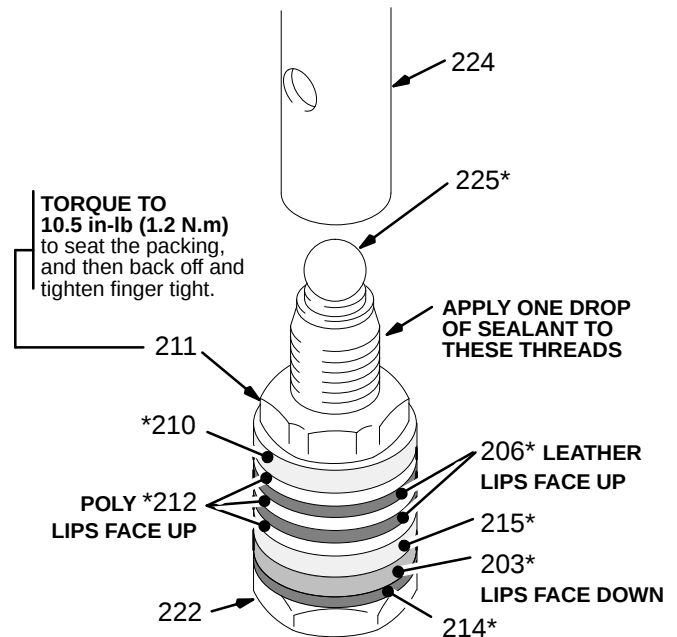

Fig. 27
NOTE: Alternate leather and plastic packings as shown in Fig. 27. The lips of the throat "V" packings must face down. The lips of the piston "V" packings must face up. The lips of the U-cup seal (203*) face down. Incorrect installation damages the packings and results in pump leaking.
4. Place the ball (225) on the piston valve (222). See Fig. 27.
5. Apply one drop of adhesive, supplied, to the piston valve threads. Then hand tighten the valve assembly into the piston rod just until the nut (211) contacts the rod. See Fig. 27.